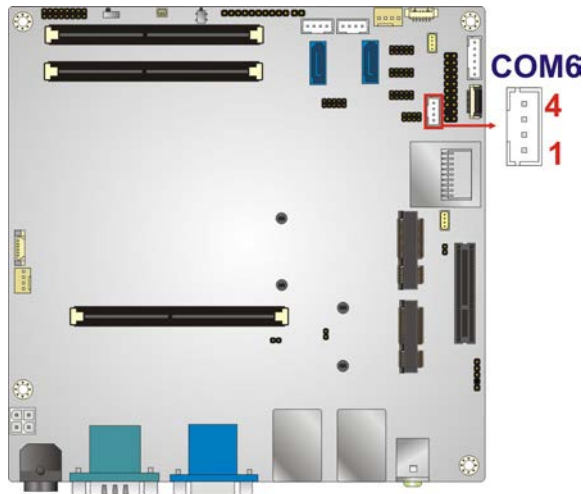

Figure 3-19: RS-422/485 Connector Location
- CN Location:** See Figure 3-19